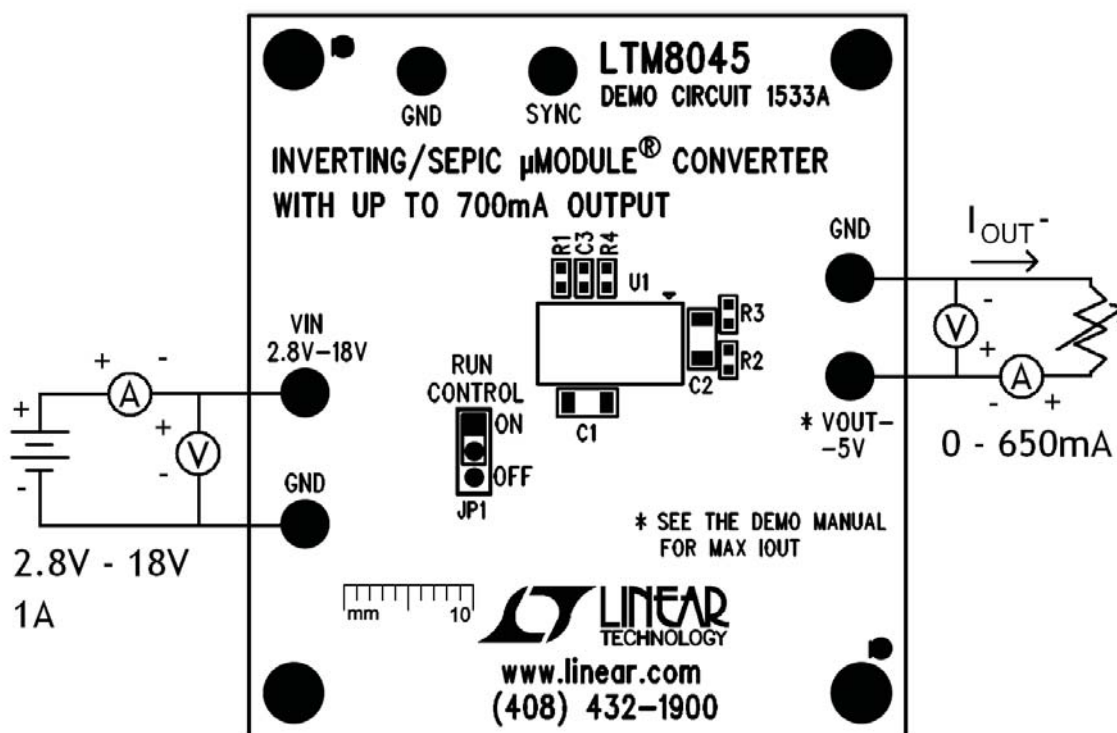
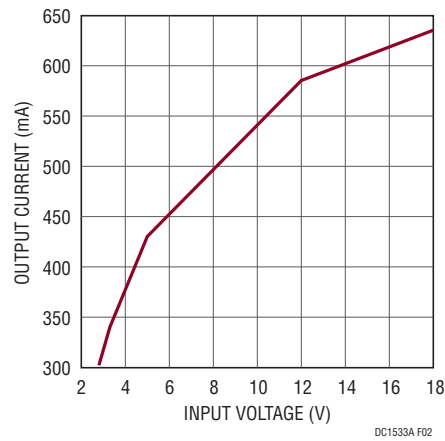

Figure 1. Proper Measurement Equipment Setup
Figure 2. Maximum Output Current vs Input Voltage for $V_{OUT} = -5V$
Demo circuit DC1533A is an easy way to evaluate the performance of the LTM8045. Refer to Figure 1 for the proper measurement equipment setup and Figure 2 for the maximum output current versus input voltage, then follow the procedure below:
2. Connect the power supply (with power off), load, and meters as shown in Figure 1.